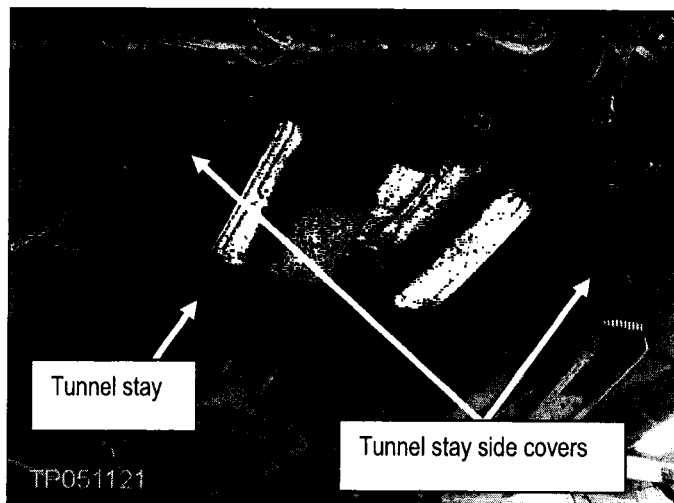

Figure 44
10. Remove nuts and bolts and remove the tunnel stay side covers and the tunnel "stay" (see Figure 44).